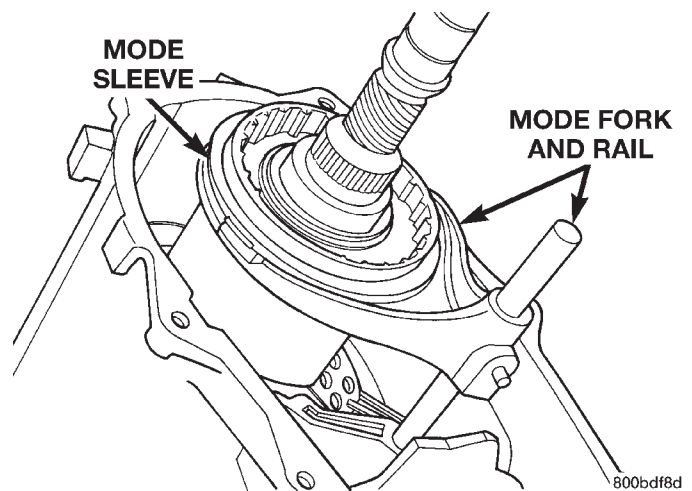

Fig. 66 Mode Fork And Sleeve Installation
(9) Install assembled mode fork and sleeve (Fig. 66). Be sure fork rail goes through range fork and into case bore. Also be sure sleeve is aligned and seated on mainshaft hub.